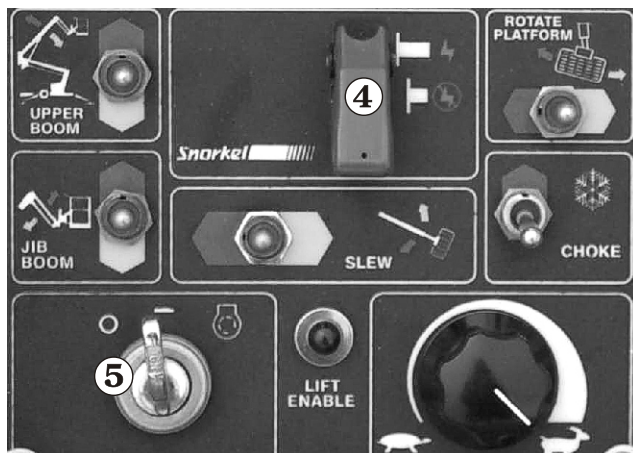

Figure 9.2
4. Set the **Emergency Stop** switch ④ to ON (see Figure 9.2).
5. Set the **Anti-Restart** switch ⑤ (see Figure 9.2) to ON.